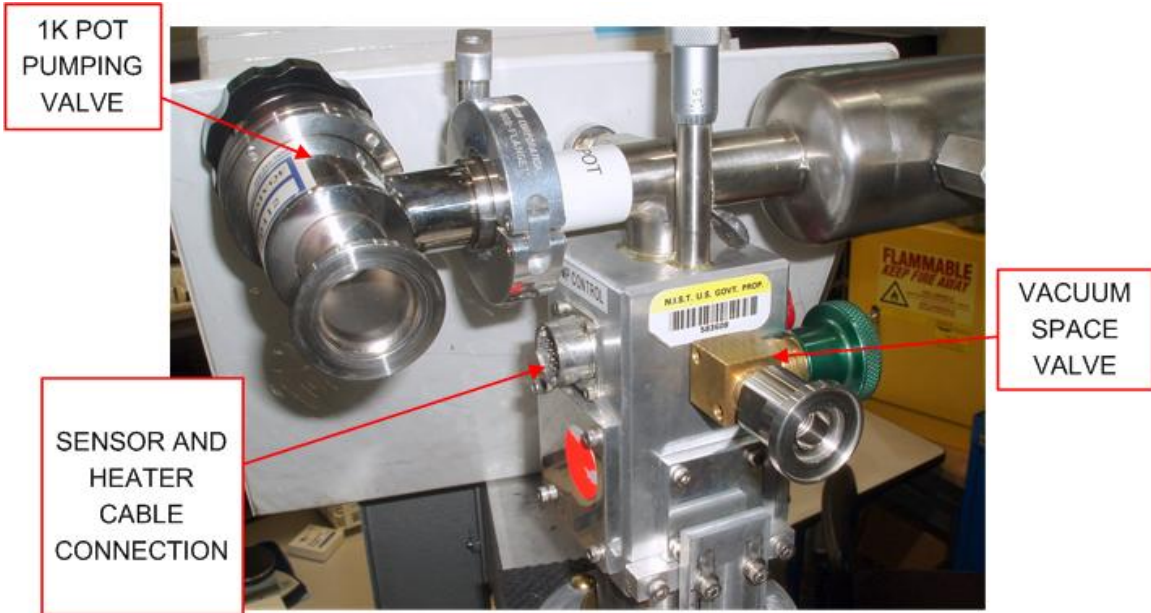

Figure 2: Insert Top Connections
- a. The 1K pot line should be checked for proper flow before proceeding, especially if the insert was recently cold. To do this, pressurize the line by connecting helium gas to the 1K pot pumping valve on the top of the insert (See Figure 2). Cover what is normally the inlet, the small hole on the side of insert just above the taper seal, with alcohol and look for a small bubble of gas every few seconds to verify flow. If flow can not be verified contact a sample environment team member before proceeding. If flow is verified close the pumping valve and disconnect the gas line.
- b. Clean the two mating taper surfaces with alcohol and then cover each in a liberal, but uniform, layer of grease. Connect a turbopump to the inserts vacuum valve (a KF 16-25 adapter will be necessary) and open the valve (See Figure 2). Place the vacuum can carefully over the sample and gently